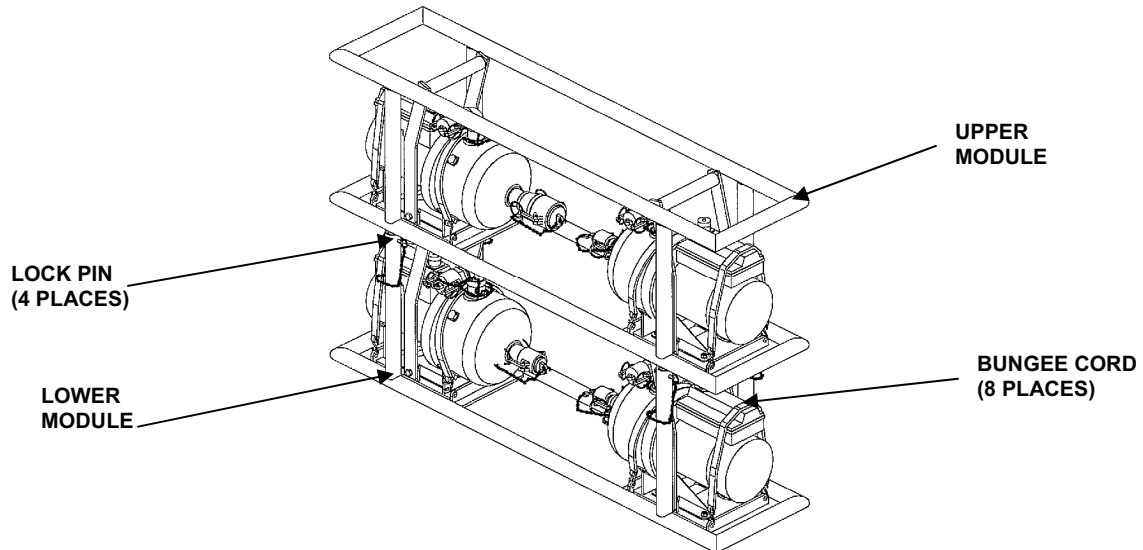

Figure 6. Service Pump Upper and Lower Modules.
3. Release the upper service pump module from the lower service pump module. Pull and remove the four lock pins attaching the upper and lower pump modules together. See Figure 6.